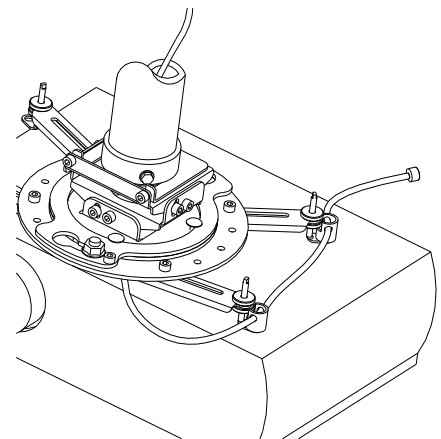

Figure 2
3. Pass security cable through holes in barrels and up through pipe. See Figure 2.